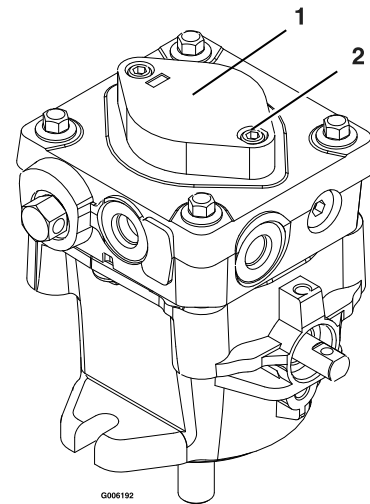

Figure 8
- If either drive wheel does not rotate, one or both of the charge pumps (located on the top of the main pump as shown in Figure 8) may have lost their "prime". Refer to **Hydraulic System Air Purge** section.
The critical area for purging air from the hydraulic system is between the oil reservoir and each charge pump located on the top of each variable displacement pump (Figure 8). Air in other parts of the hydraulic system will be purged through normal operation once the charge pump is "primed".
- To "prime" charge pump, loosen two hex socket head capscrews (shown in Figure 8) **1 1/2 turns only. Make sure engine is not running.** Lift the charge pump housing upward and wait for a steady flow of oil to flow out from under the housing. Retighten the capscrews. Do this for both pumps.